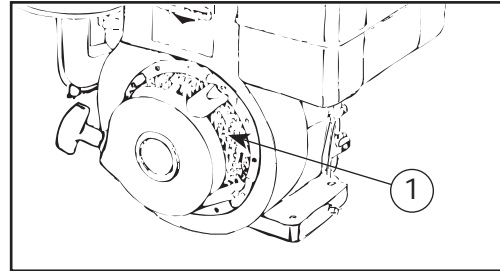

FIGURE D.3 - CLEAN ROTATING SCREEN/FINGER GUARD/DEBRIS GUARD
**Clean Rotating Screen:** If your POWER-ARC 4000 is equipped with an engine that has a rotating screen, you should clean it as often as needed, to remove dirt or debris that may collect on the screen. A dirty screen can result in engine overheating and damage. (See Figure D.3).